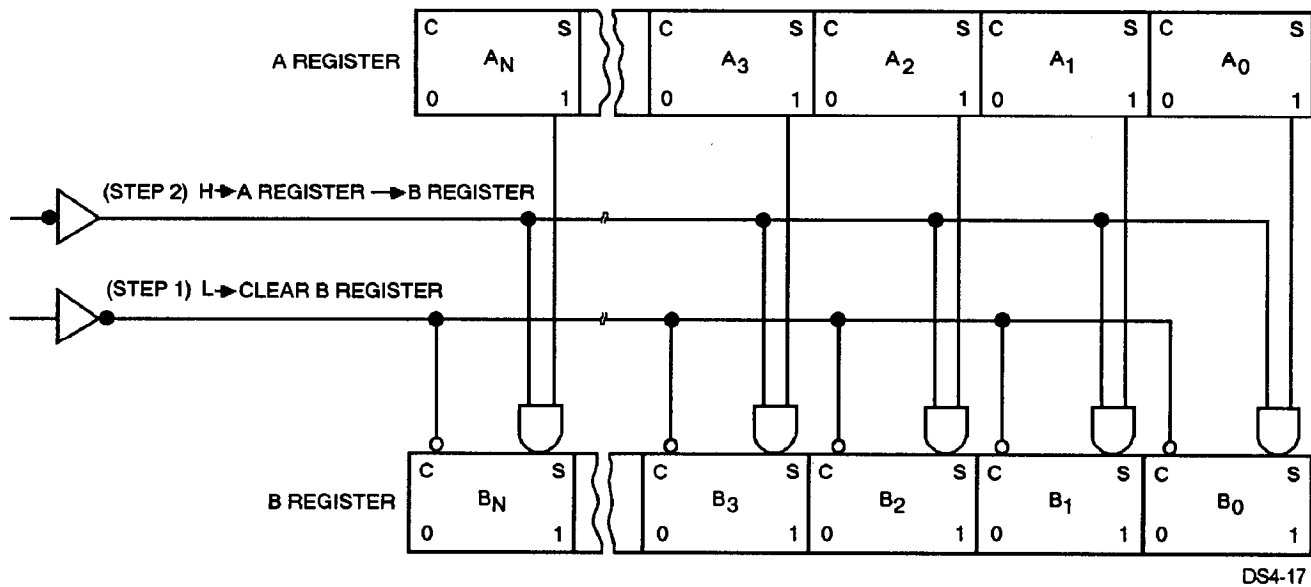

Figure 4-17.—Example of command enable used in a circuit.
- Command signals (enables) —These circuits provide the enable to route information from one destination to another, such as transferring the contents of one register to another. Other examples are to set a condition, start a timing chain, or select an address. See figure 4-17. A closer look indicates that the only time a set side of the B register will be a 1 is when a set side of the A register is set **and** the A register → B register command is enabled (H).